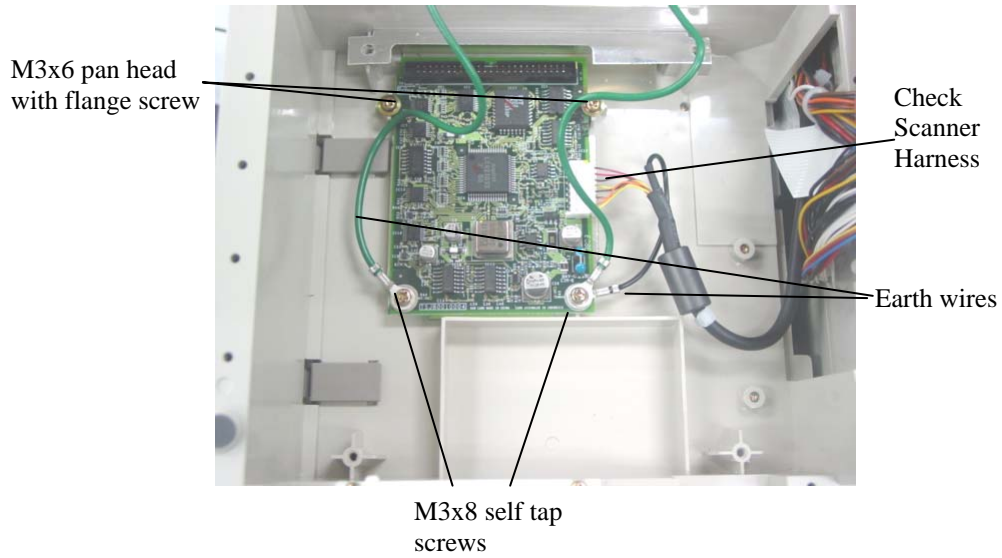

Figure 19 – Assembly of Check Scanner Sub PC Board
3. Connect the Check Scanner Harness to the Check Scanner Sub PC Board (Figure 19)
4. Fasten the Check Scanner Harness earth wire, together with the green earth wire (part 12) on the bottom right hole, and one green earth wire (part 12) on the bottom left hole, using two M3x8 self tap screws (part 14B) (Figure 19)
5. Fasten the remaining two holes with two M3x6 pan head with flange screws (part 14A) (Figure 19)